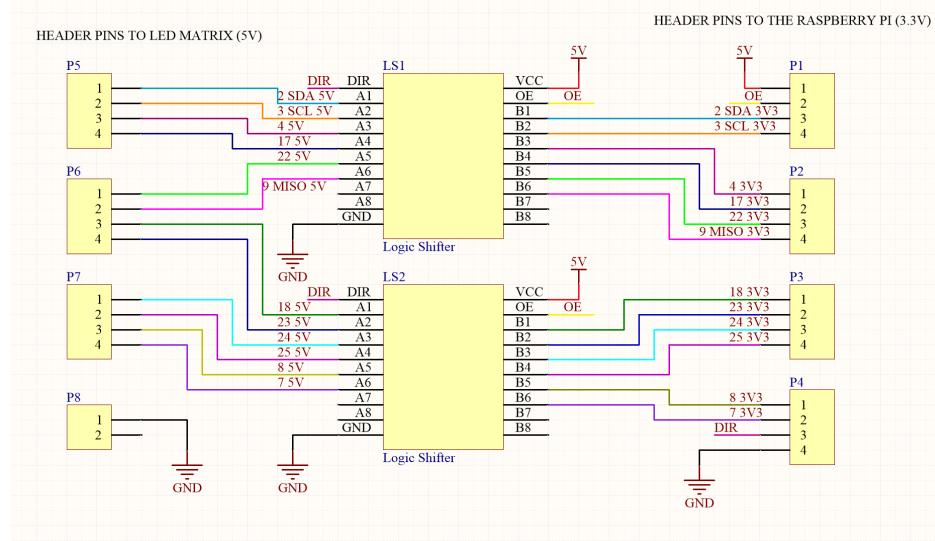

Figure 8: Logic Shifter schematic
In Figure 8 the wire labels correspond to the name of the GPIO pin the signal comes from on the raspberry pi. The data sheet for the logic shifter IC chip can be found at:
6. Repeat this process for the rest of the pins, following along with the circuit diagram in Figure 8, making sure each channel of the shifter is working correctly.